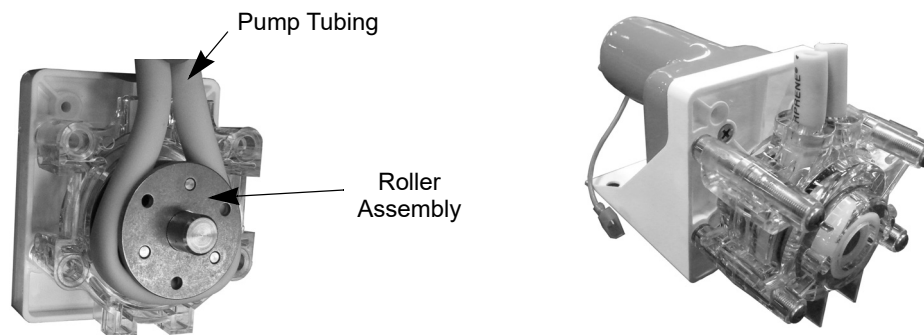

Figure 24. Pump Assembly
- Remove **ONLY** the rear pump body half to reveal the pump tubing and rollers (See Figure 24).